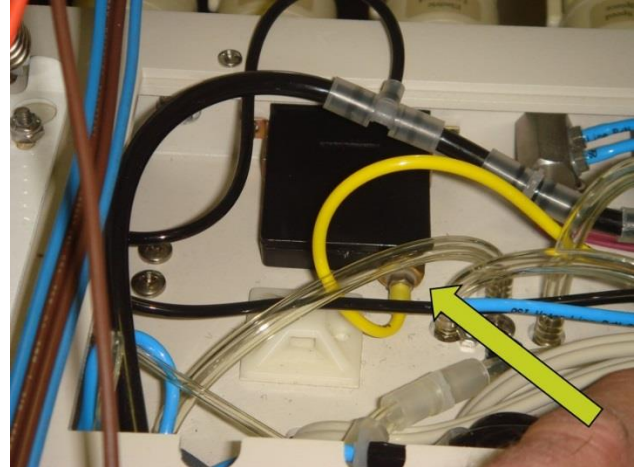

Fig. 2
5. Locate backside of handpiece pressure gauge. (Fig. 2)